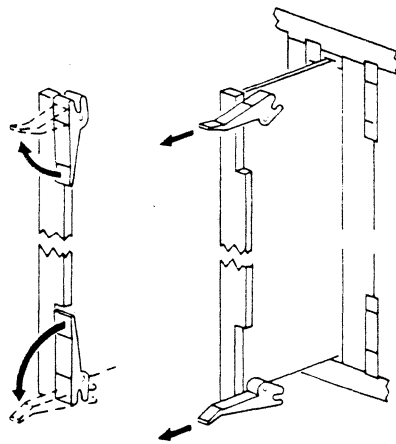

Figure 7-17. Removal of Logic Cards
- b. Grasp the card extractors (black tabs) (Figure 7-17) on each card and pivot them out until the card is free from its mating connector.